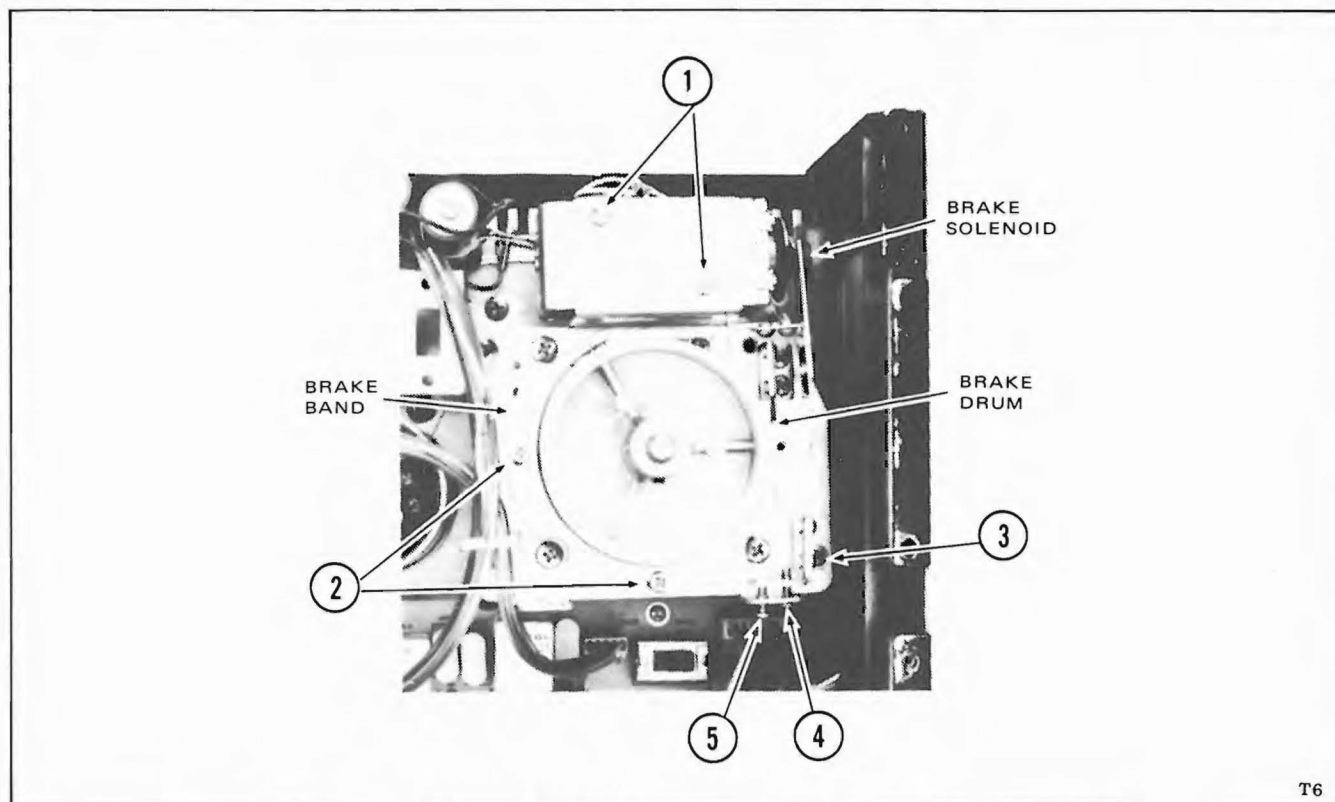

Figure 5-15. Brake Assembly
- b. Through the back of the deck, locate brake assembly for reel being measured (supply or takeup), refer to Figure 5-15, and loosen screw 3 and screw 4. (The figure shows supply reel assembly but equivalent screws on takeup motor are easily identifiable.)
- c. Adjust screw 5 (Figure 5-15) up to tighten (increase tension), or down to loosen (decrease tension). Then tighten screws 3 and 4 and recheck brake torque.
2. Refer to Figure 5-15, turn on power, depress PLAY button, and visually check that the brake band does not contact the brake drum. Check both right and left brake assemblies.
3. If brake band touches brake drum, turn off power, loosen screws 1 and 2 in Figure 5-15